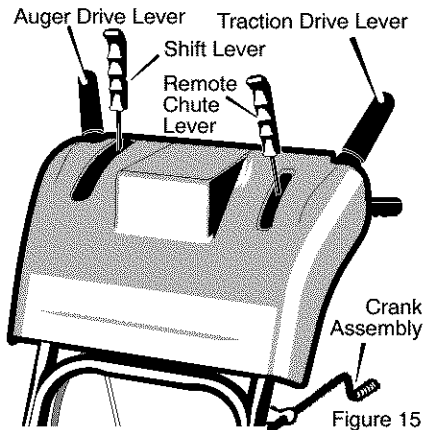

Figure 15
1. To stop throwing snow, release the **auger drive lever**. See Figure 15.
1. To shift, release the traction drive lever (**left hand**) and move the speed shift lever to the speed you desire. See Figure 15. Ground speed is determined by snow conditions. Select the speed you desire by moving the speed shifter lever left into the appropriate notches on the shift lever plate:
1. Push down the auger driver lever (**right hand**). See Figure 15.